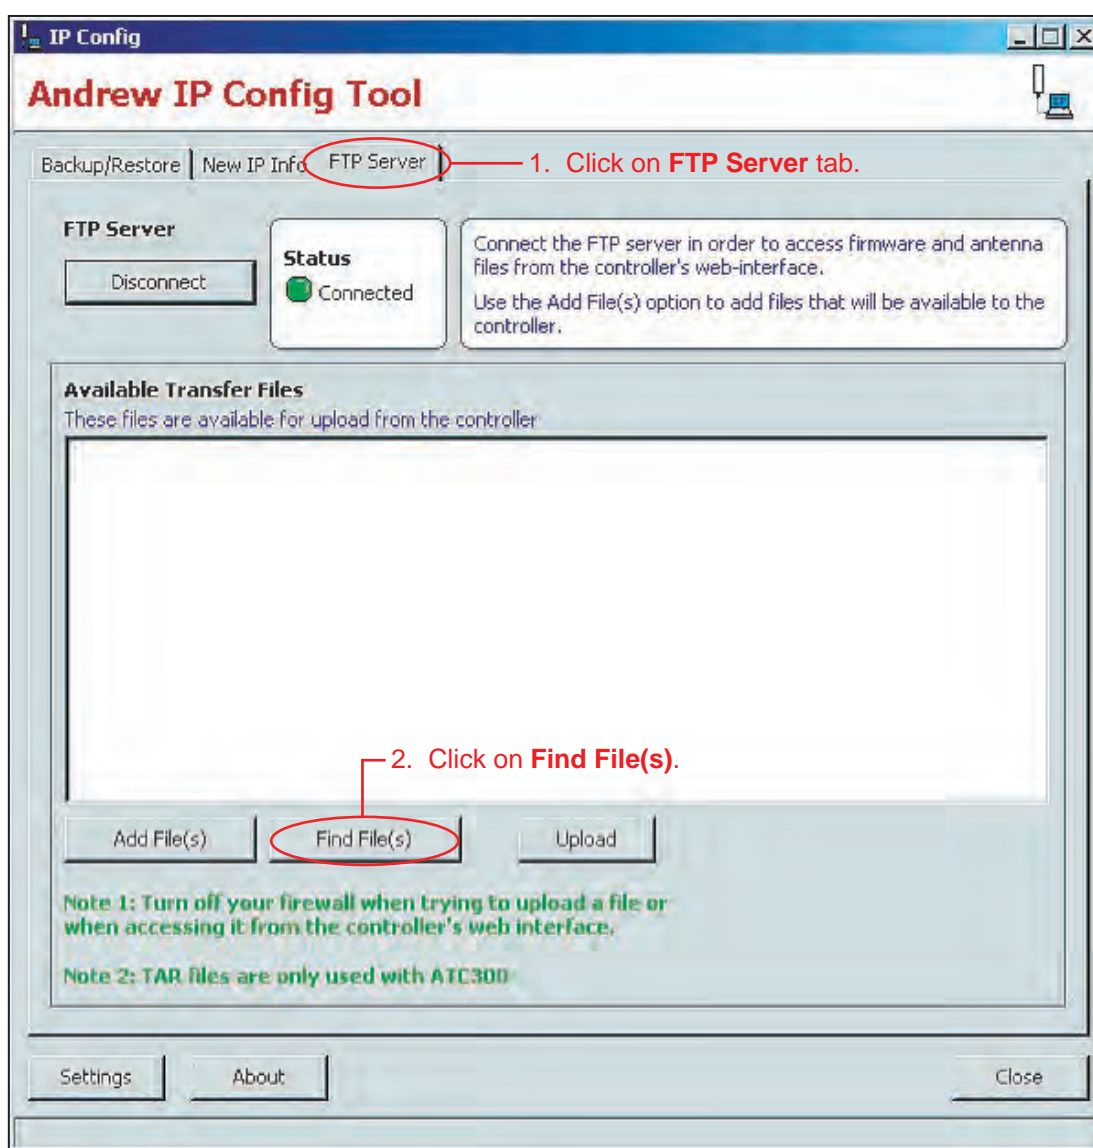

Figure 9-4. IP Config Tool's FTP Server Tab Screen.
2. From the IP Config Tool interface, click on the **FTP Server** tab (Figure 9-4).
3. Click on the **Find File(s)** button (Figure 9-4).